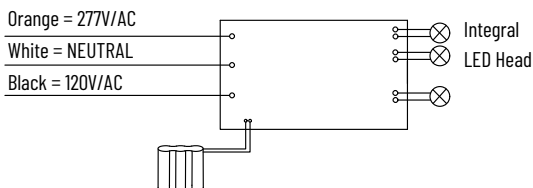

Figure 1
1. Insert flat head screwdriver into the slots on the bottom of luminaire to pry off front cover. (Figure 1)